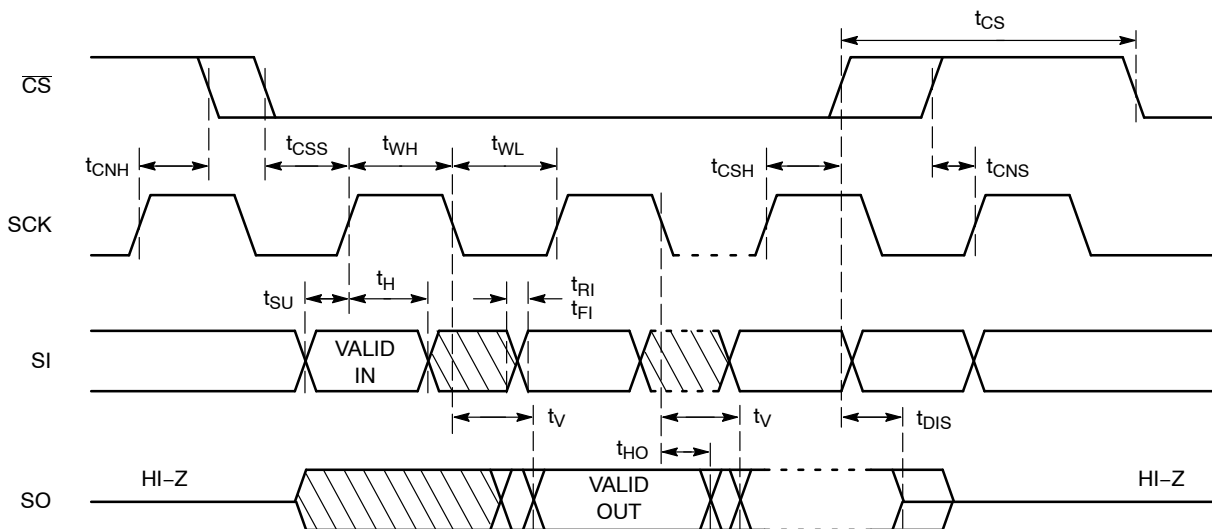

Figure 2. Synchronous Data Timing
9. **All Chip Select (CS) timing parameters are defined relative to the positive clock edge (Figure 2). t_{CSH} timing specification is valid for die revision C and higher. The die revision C is identified by letter “C” or a dedicated marking code on top of the package. For previous product revision (Rev. B) the t_{CSH} is defined relative to the negative clock edge.**
After a high to low transition on the $\overline{\text{CS}}$ input pin, the CAT25256 will accept any one of the six instruction op-codes listed in Table 10 and will ignore all other possible 8-bit combinations. The communication protocol follows the timing from Figure 2.